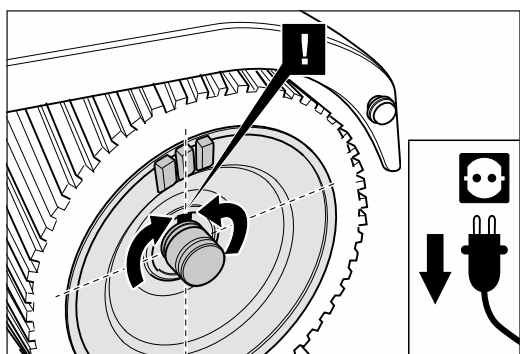

Fig. 55 Turn the sanding drum in such a way that the groove is pointing upwards, to ensure that the parallel key is not lost. **Similar to figure.**
- 9 Turn the sanding drum in such a way that the parallel key is pointing upwards to ensure that the parallel key is not lost (fig. 55). Now pull the sanding drum out sideways out of the housing.